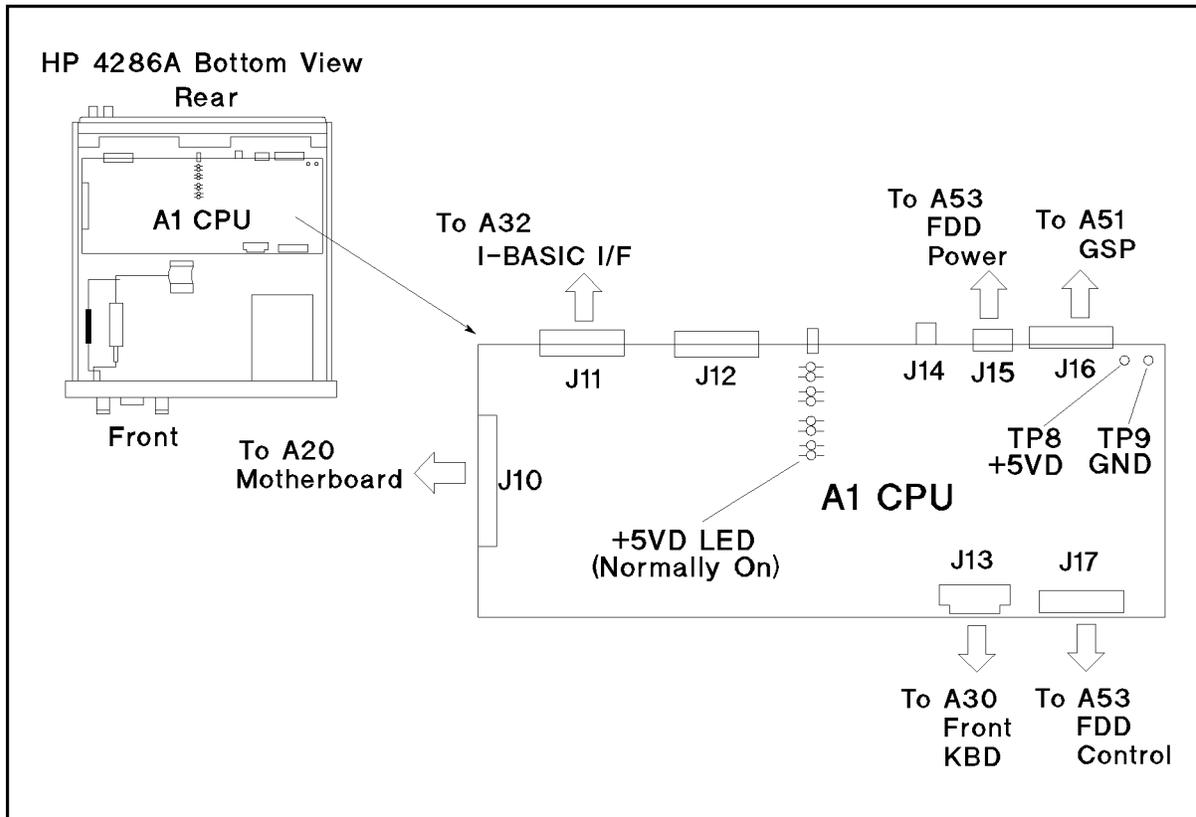

Figure 5-8. A1 CPU Connector Locations
- b. Disconnect cables from the A1 CPU's connectors, J10, J11 (if option 1C2 installed), J12, J13, J14, J16, and J17. The connector locations are shown in Figure 5-8.